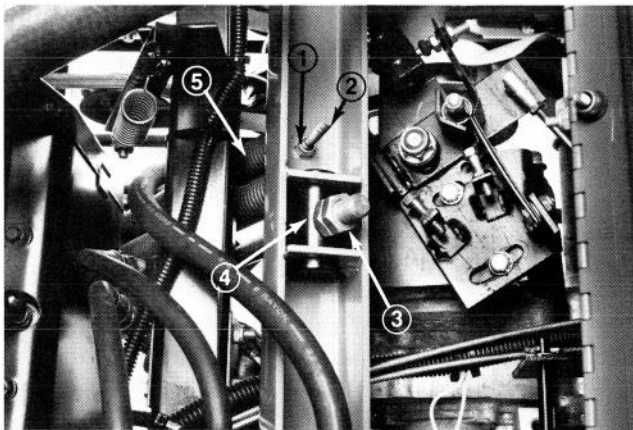

Figure 26
2. Measure distance between cylinder jam nuts and cylinder pivot pin (Fig. 26). Distance should be approximately 1/4".
4. Check distance between clevis pin and bottom of loops on springs. Distance should be .25" or less (Fig. 26 & 27).
5. Adjust nut on lift arm "T" hook to obtain required distance (Fig. 26).